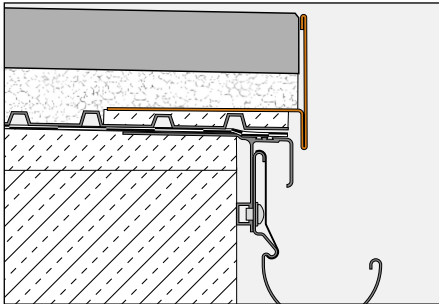

Fig. 1
**Installation with self-supporting pavers on mortar contact points or gravel/crushed stone beds (Fig. 1 to 3)**
- 3.1 When using Schlüter®-BARA-RT as a gravel retaining edge (Fig. 1), the gravel should reach just below the upper edge of the vertical profile leg, depending on the thickness of the covering. Now the concrete pavers are loosely installed on the levelled gravel bed.